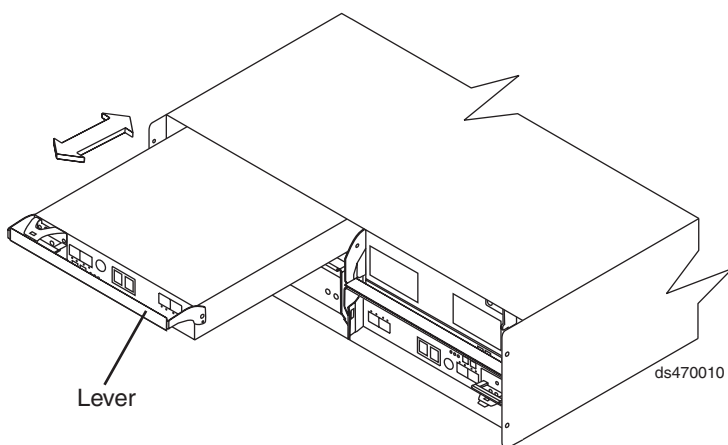

Figure 106. Removing a controller from the DS4700 Express
9. Slowly pull the lever away from the chassis to remove the controller from the bay. Use two hands when releasing the controller levers. Figure 106 shows the controller sliding from the storage subsystem chassis.